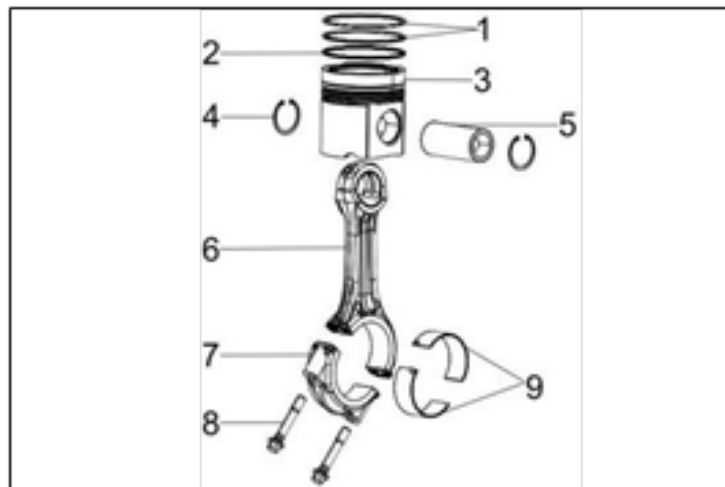

Figure 101.
3. Remove the connecting rod bearings (Figure 101, item 9).
4. Remove the compression rings (Figure 101, item 1) from the piston using a piston ring expander.
5. Remove the oil ring (Figure 101, item 2) from the piston using a piston ring expander.
6. Remove the circlips (Figure 101, item 4) from the piston pin.
7. Remove the piston pin (Figure 101, item 5) and connecting rod (Figure 101, item 6) from the piston (Figure 101, item 3).